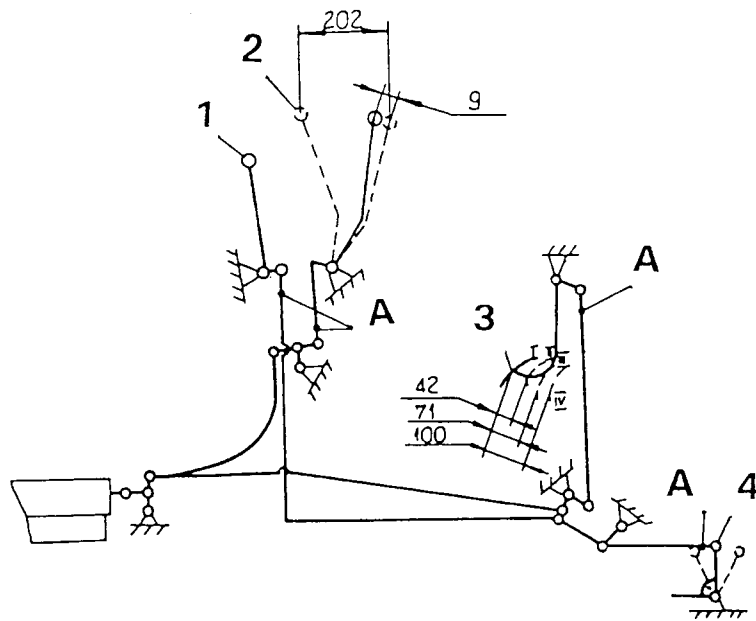

Fig. 5.57. Hand and Foot Controls
- c) Adjust foot pedal "3" to maintain the dimensions in mm (Refer to Fig. 5.57):